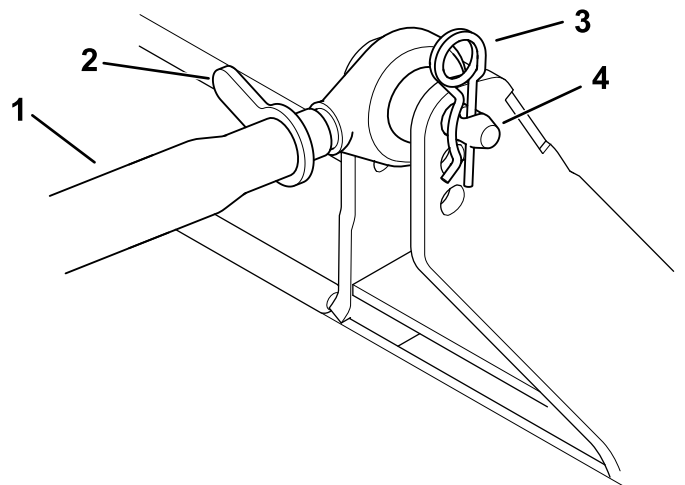

Figure 15
4. Loosen the upper link jam nut and rotate the upper link (Figure 15).